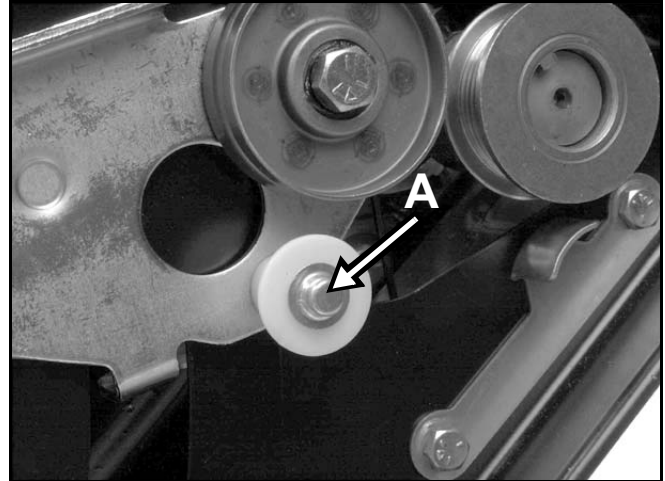

Figure 48
9. Replace nylon rollers if worn or damaged. One is retained by a cap nut (Figure 48). Use side cutters to remove it, and replace with a new cap nut.